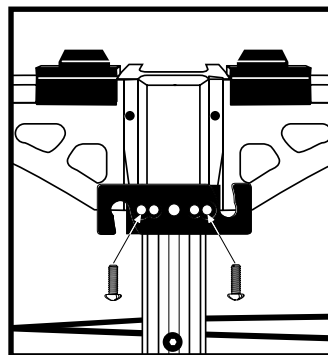

Figure 5D
3. Secure the Quick Detach Quiver Mount to the Dovetail Mount Bracket on the underside of the Main Frame, near the Prod and Limb Assembly, with the two Quiver Mount Allen Screws provided. Figure 5D.